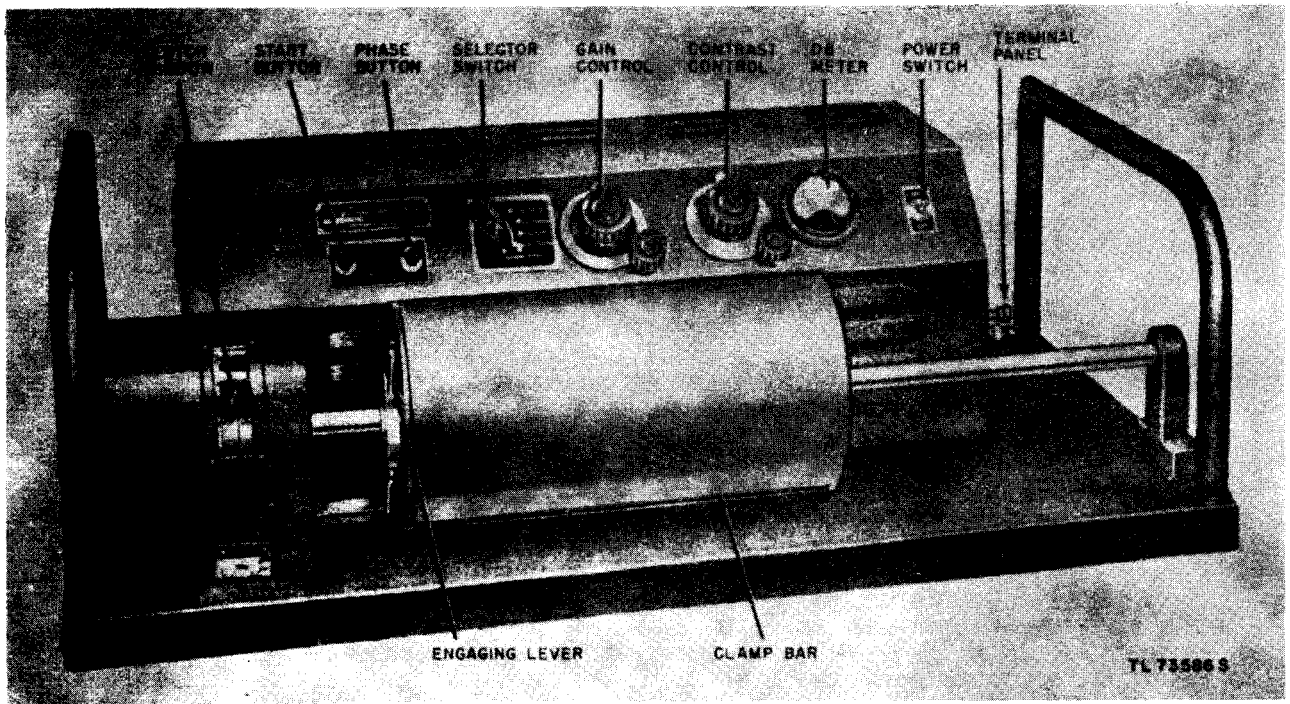

Figure 13. Controls, facsimile transceiver TT-1/TXC-1.
- (2) Transmission over open-wire telegraph lines is sometimes practical, without danger of cross talk into dispatcher circuits, with a +26 dbm signal going into the line. As a further precaution against cross talk in this type circuit, transposition of the wires at  $\frac{1}{4}$ -,  $\frac{1}{2}$ -, or  $\frac{2}{3}$ -mile intervals would be advantageous.
- (3) A line that has low-loss characteristics may furnish a received signal which is higher than the LINE binding post input of the transceiver can accept for satisfactory reproduction. This is indicated by the necessity of setting the GAIN control near zero to obtain the standard +2 db indication required for proper operation of the transceiver. When this condition is encountered, *for receiving only*, connect the line to a plug and insert the plug into the jack on the transceiver marked RADIO RCVR. To reduce hum, connect a wire from the GND terminal to the REC CT terminal. Leave the plug out of the RADIO RCVR jack except when receiving copy. When transmitting, the line must be reconnected to the LINE terminals.
- (4) For transmission over a single commercial wire line, the standard 0 dbm (.78 volt) signal is available at the LINE terminals on Facsimile Transceiver TT-1(\*)/TXC-1 when the GAIN control (figs. 13 through 16) on the front panel is adjusted for a reading of +2 db on the DB METER.